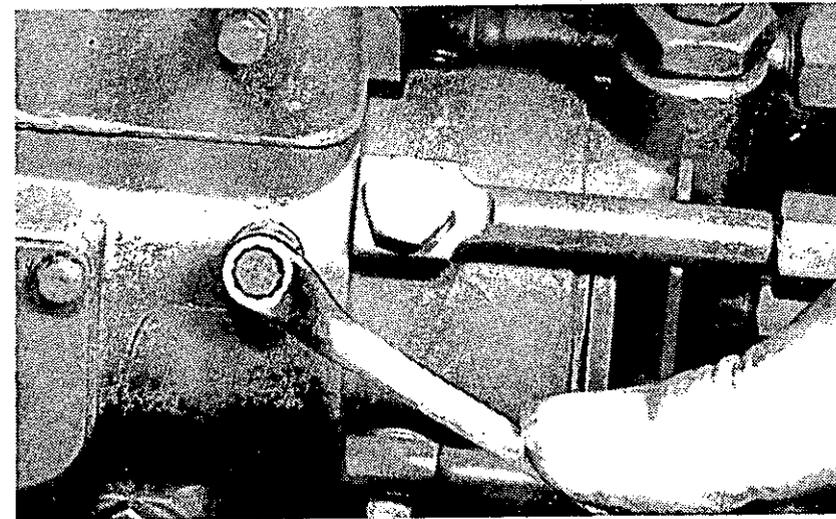

Fig. 13 Vent screw on hydraulic head
4 Loosen the vent screw on the fuel injection pump hydraulic head locking screw on the side of the fuel injection pump (see fig. 13).
- Head locking screw on the fuel injection pump (see fig. 13).